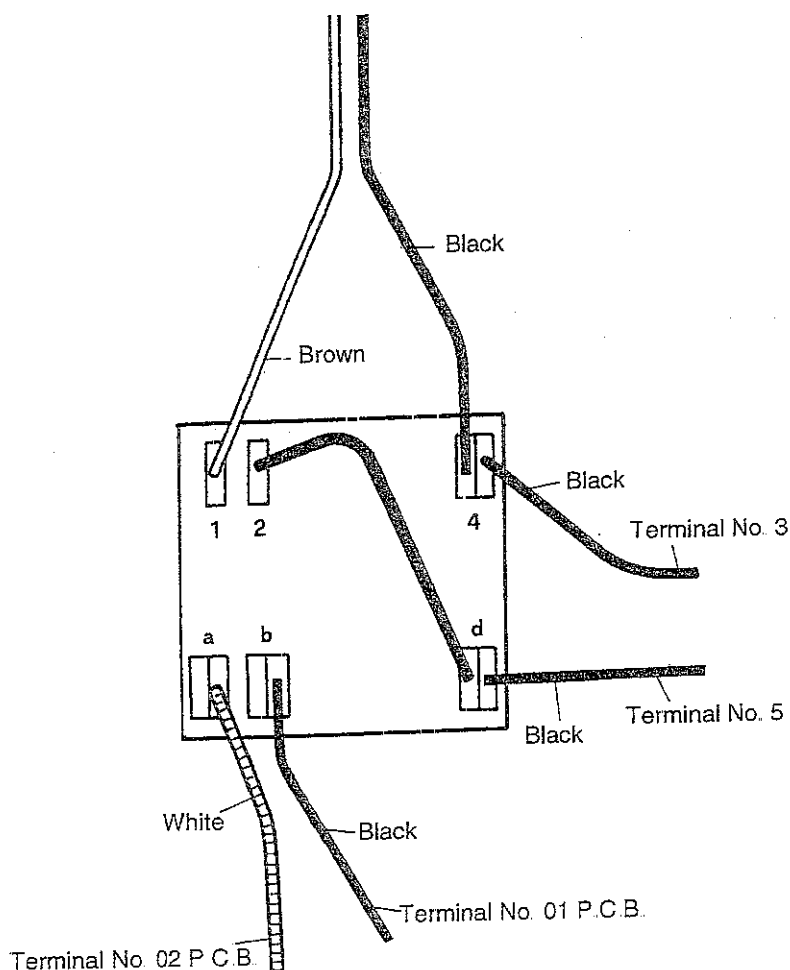

Fig 42
- Disconnect the electrical connections to the selector switch (fig. 42)
- Re-assemble in reverse order (refer to fig. 42 for wiring). Check the operation of the new switch.